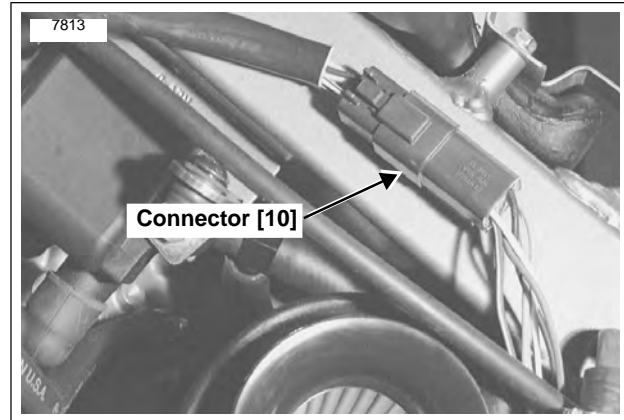

Figure 7-95. Ignition Connector [10]
13. See Figure 7-95. Unhook connector [10] from the T-stud on the left side of the frame backbone.
18. See Figure 7-95. Disconnect ignition connector [10] on left side of frame backbone.
18. See Figure 7-95. Mate ignition module connector [10] and attach to T-stud on left side of frame backbone.